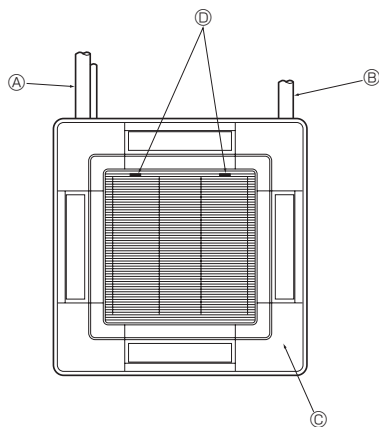

Fig. 7-11
7.5. Installing the intake grille (Fig. 7-11)